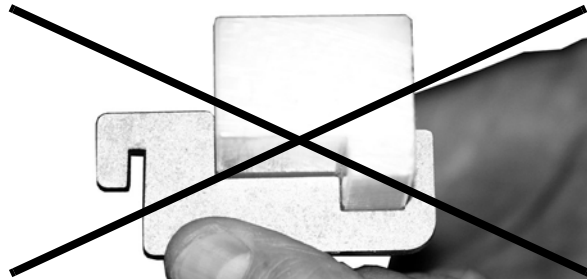
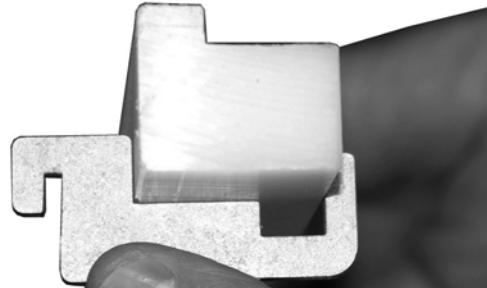

Figure 35
Figure 36
3. Verify that belt returns are mounted correctly by following graphic below (Figure 35) shows incorrect mounting and (Figure 36) shows correct mounting.